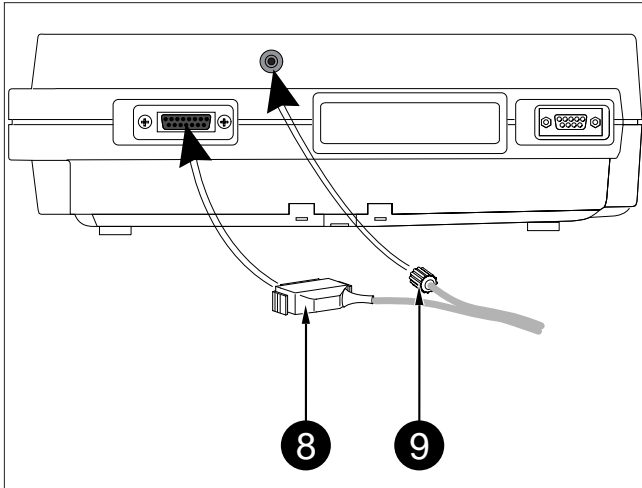

Figure 3-1. Connecting the application system to a *CardioSmart* with integrated suction pump
When using an electrocardiograph or the *CORINA* model with integrated suction pump, all you have to do is plug in the patient cable connector (8) and connect the suction pump (9) (e.g. *CardioSmart*, Figure 3-1).